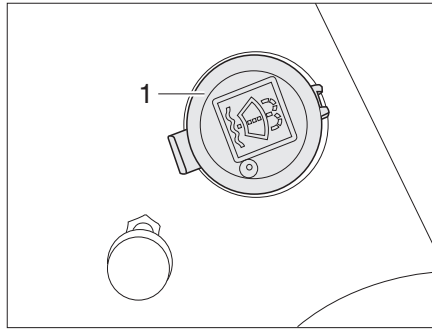

Fig. 30 Washer fluid container filler neck
- Remove the lid (Fig. 30,1) from the filler neck of the washer fluid container.